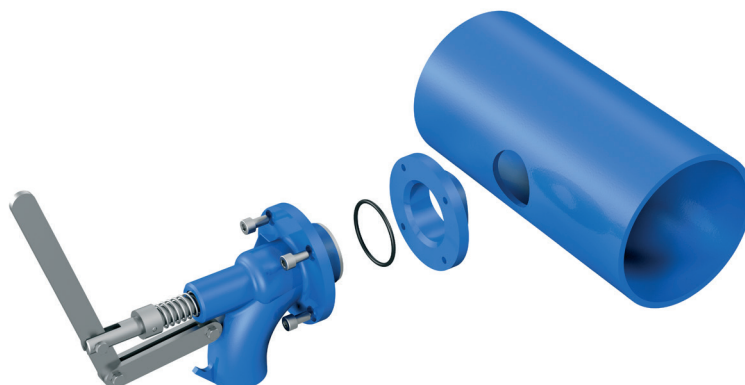

Fig. 1
1.- Loosen the screws holding the coupling and remove the seal (fig.1).